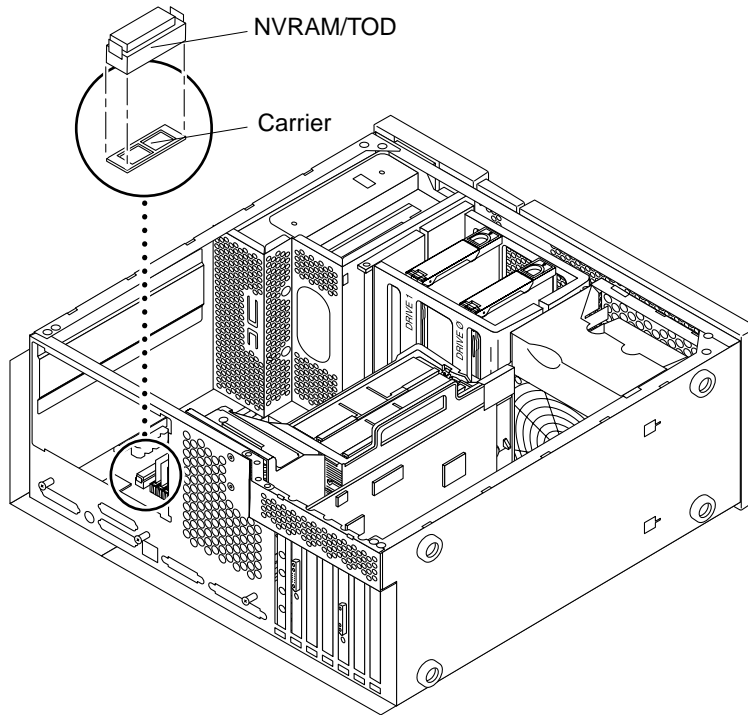

FIGURE 10-2 Removing and Replacing the NVRAM/TOD
5. Remove the NVRAM/TOD as follows (FIGURE 10-2):
1. **Replace the NVRAM/TOD as follows (FIGURE 10-2):**